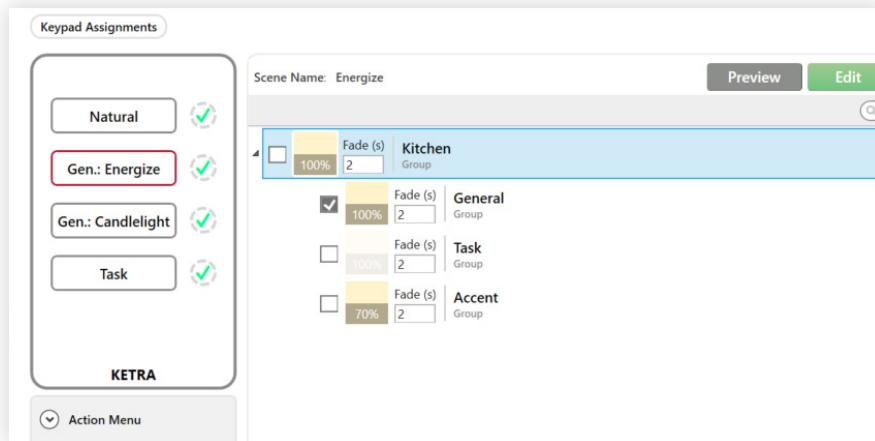

fig. 60
- 3 For each button, ensure that only the corresponding zone (group) is checked. See fig. 60. If assigning a different scene created on the Scenes tab, it is okay if the scene would normally control other groups as well. As long as only the desired zone is checked for this button, only that zone will be affected by the button.
Note: To exclude a group from a scene, select the scene button in the Keypads tab and uncheck the group. (See figure 60.) A common error is to try to exclude groups from scenes using the NA feature on the Scenes tab rather than unchecking the group on the Keypads tab. NA groups do not respond to the activation of a scene, but they do turn off when the scene is deactivated, and they will also be affected by the keypad's dimming controls.